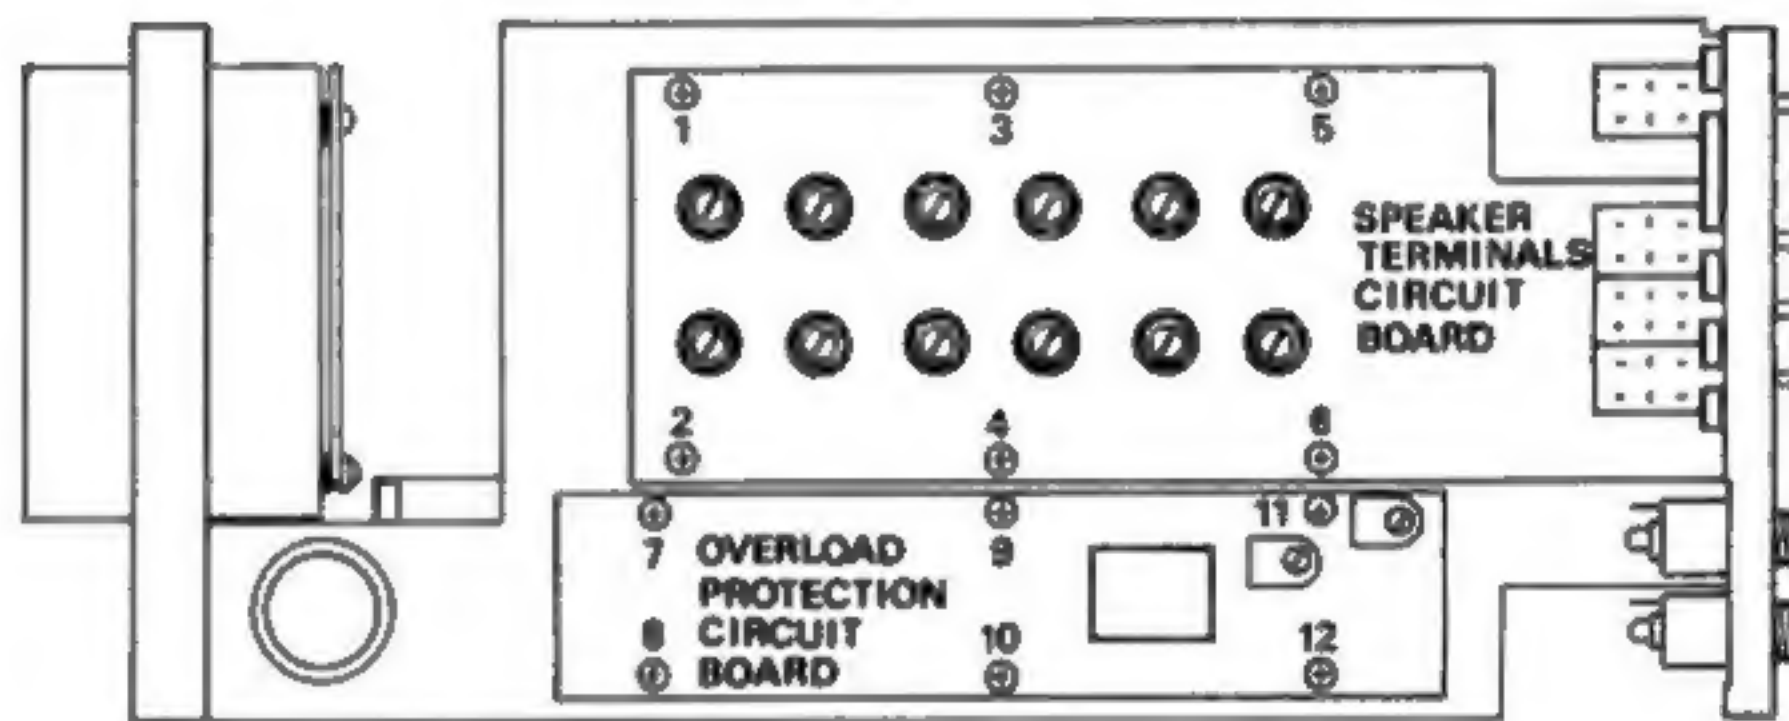

Fig. 1-8 LEFT SIDE VIEW (2)
- Unscrew the 6 Output Terminal PCB mounting screws (Fig. 1-8, screws 1-6).
- To detach Overload Protection PCB, after completing the procedure in Phase a), unscrew the 6 Overload Protection PCB mounting screws (Fig. 1-8, screws 7-12).